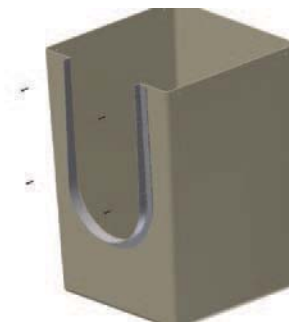

Figure 6.4
- Press fit the inlet adapter onto the catch basin and ensure the joint is properly sealed. See Fig. 6.4